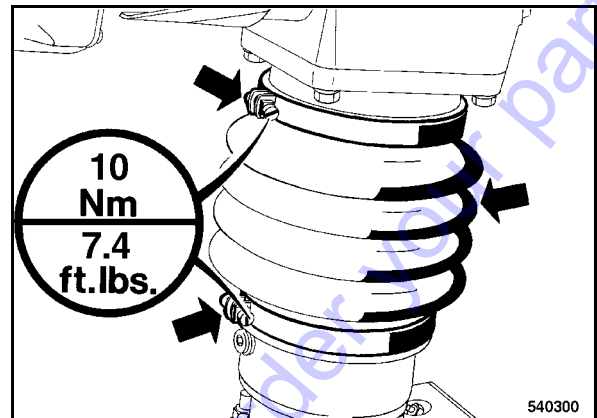

Fig. 39
- Check hose clamps for tight fit (Fig. 39).